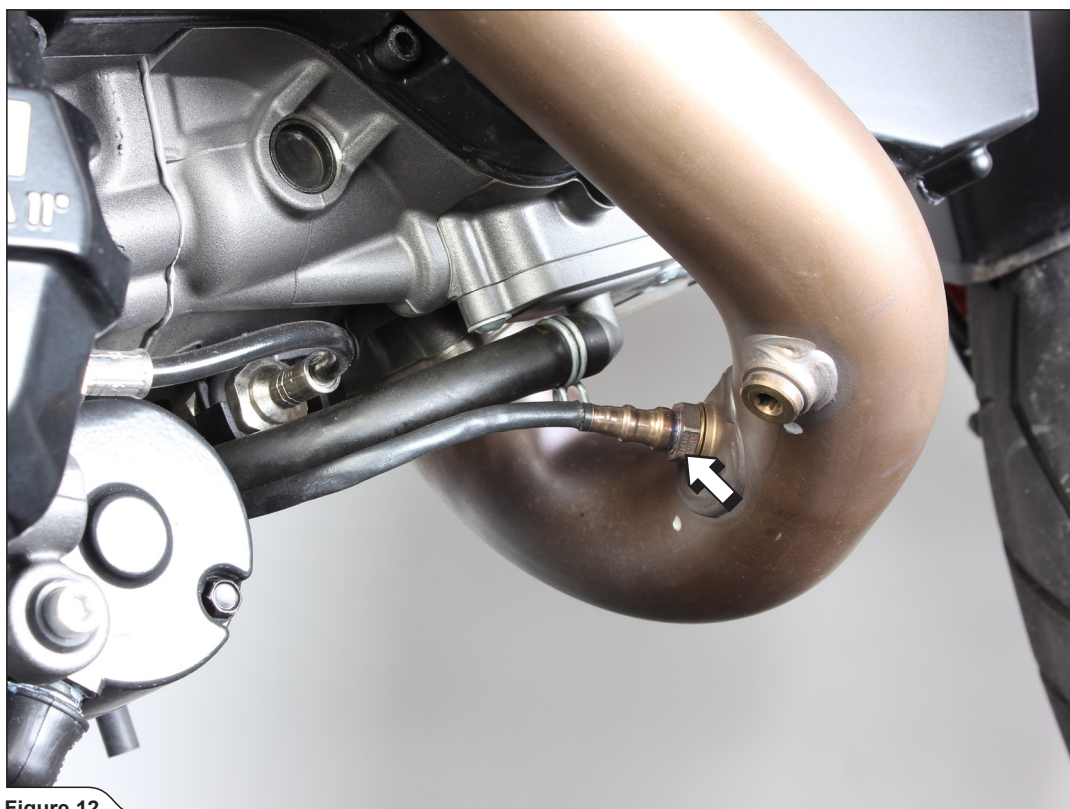

Figure 12
12. Unscrew the lambda sensor (**Figure 12**).